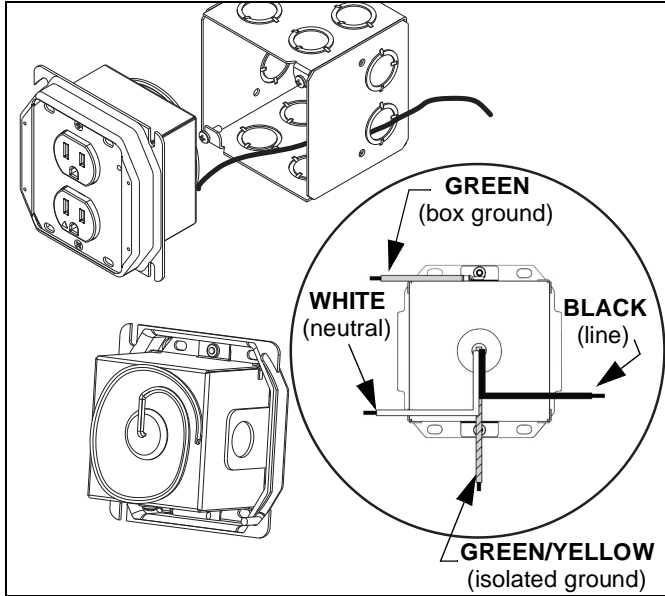

Figure 4
- Wire the outlet box as required. Refer to Table 1 and Table 2 for input and output specifications. (See Figure 4)
- Wire the outlet box as required. Refer to Table 1 and Table 2 on page 6 for input and output specifications. (See Figure 4)